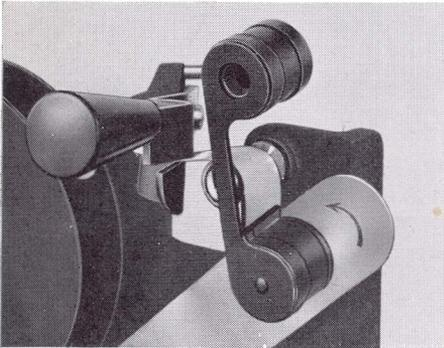

fig. 2
Now take a magazine, take off cap from the spool which has no driving axle, and slip spool on the film roll which has been wound on axle (6) fig. 2.